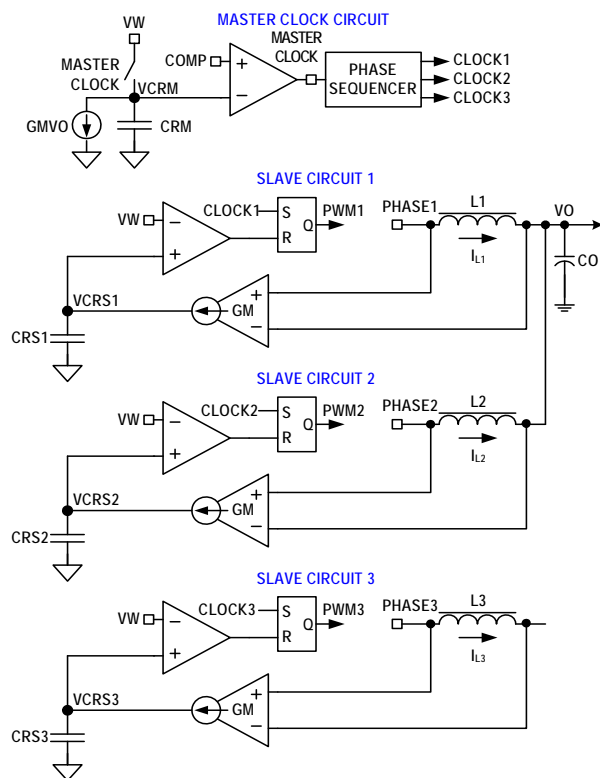
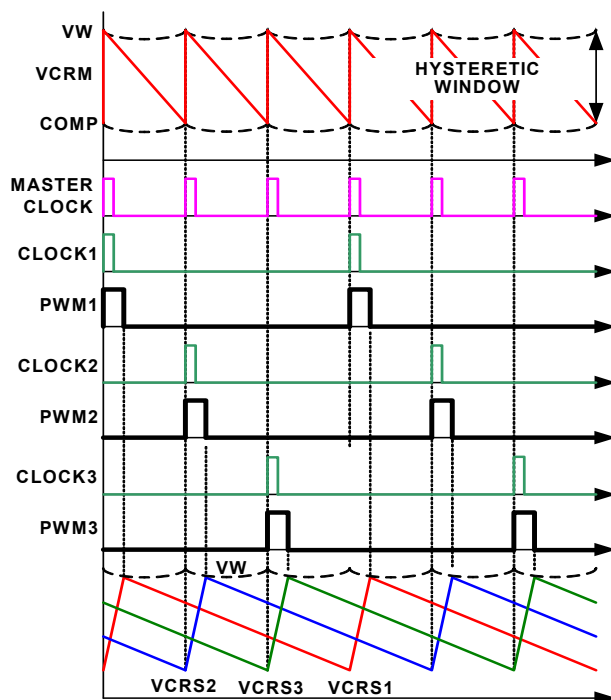

FIGURE 7. R3™ MODULATOR CIRCUIT
FIGURE 8. R3™ MODULATOR OPERATION PRINCIPLES IN STEADY STATE
The ISL6277 is a multiphase regulator implementing two voltage regulators, CORE VR and Northbridge (NB) VR, on one chip controlled by AMD's™ SVI2™ protocol. The CORE VR can be programmed for 1-, 2- or 3-phase operation. The Northbridge VR can be configured for 1- or 2-phase operation. Both regulators use the Intersil patented R3™ (Robust Ripple Regulator) modulator. The R3™ modulator combines the best features of fixed frequency PWM and hysteretic PWM while eliminating many of their shortcomings. Figure 7 conceptually shows the multiphase R3™ modulator circuit, and Figure 8 shows the operation principles.